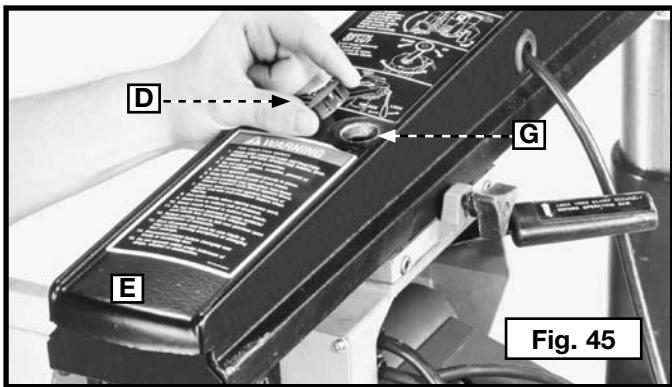

Fig. 45
1. Remove the plastic plug (D) Fig. 45 from the top of track arm (E).